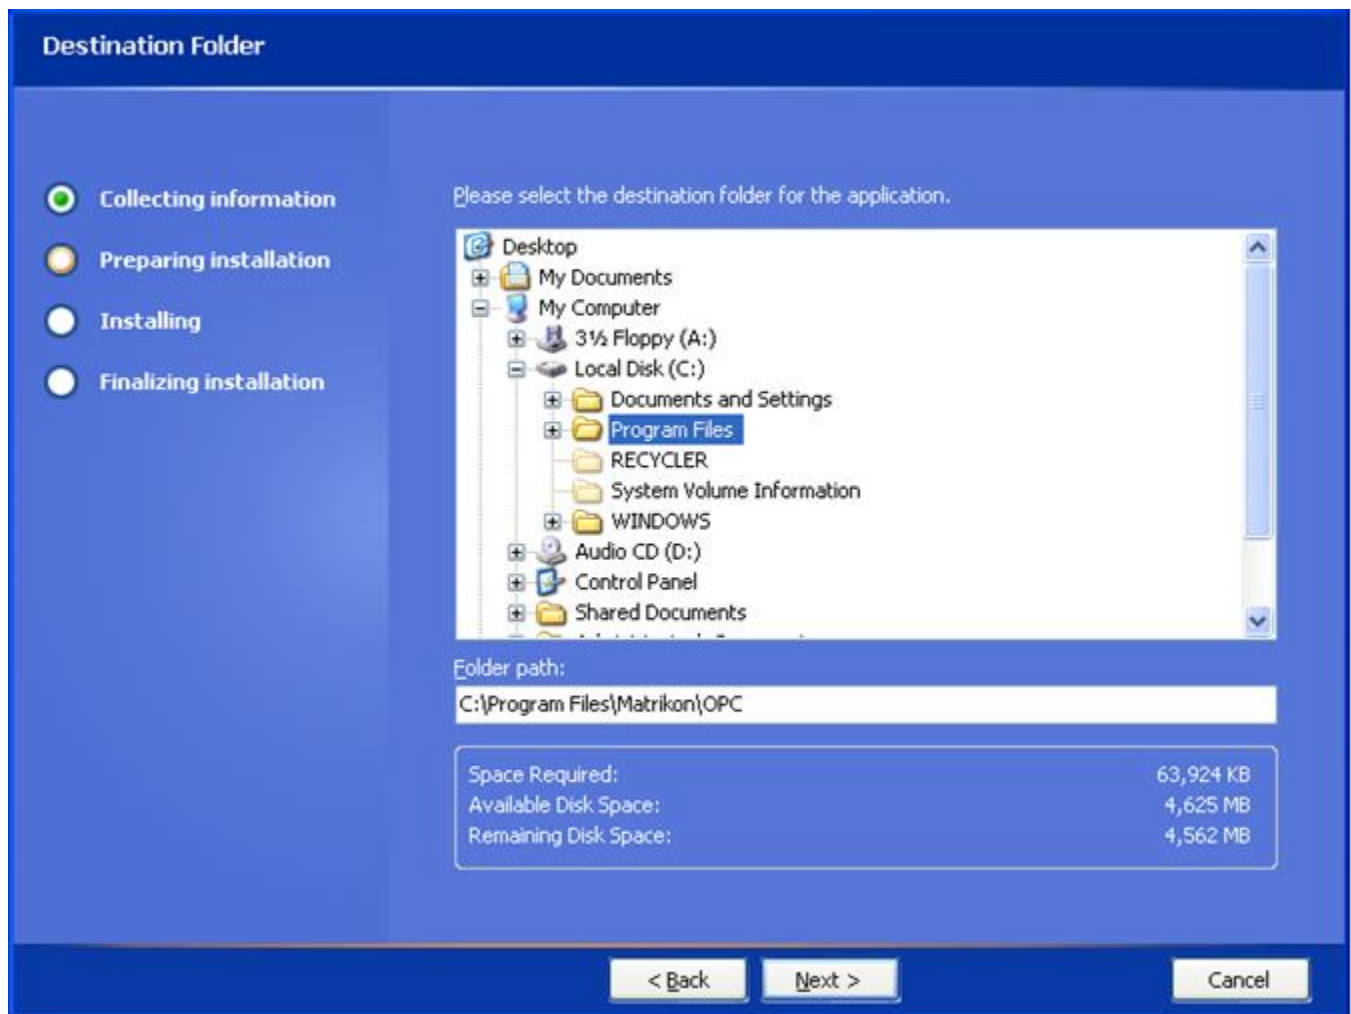

Figure 82 - Destination Folder Screen
12. Click on the **Next** button. The **Destination Folder** screen (Figure 82) appears.